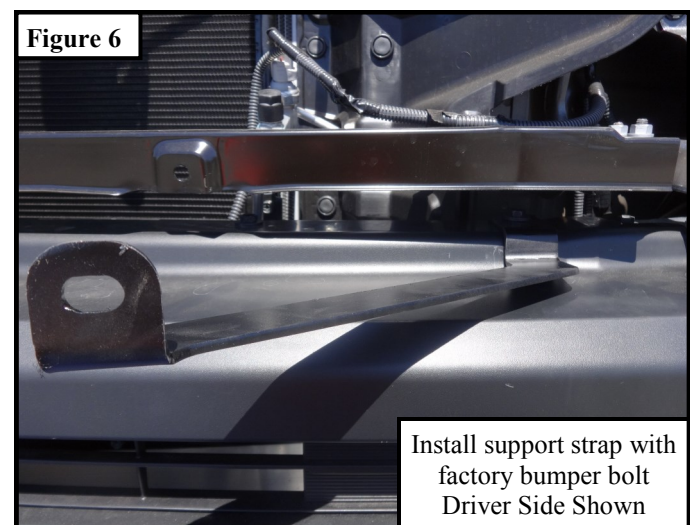

Figure 6
8. Mount the support straps with the factory bolts. FIGURE 6 *Do not fully tighten at this time.*